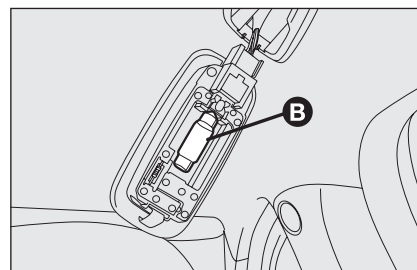

fig. 39
- ☐ replace the bulb **B**-fig. 39 releasing it from the side contacts making sure that the new bulb is correctly clamped between the contacts.